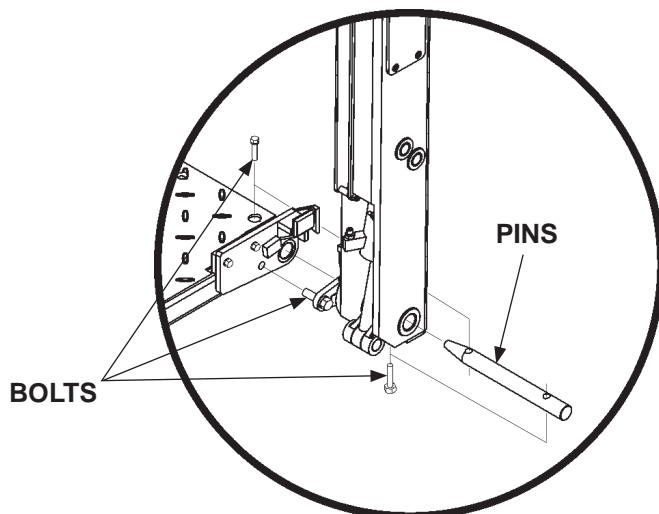
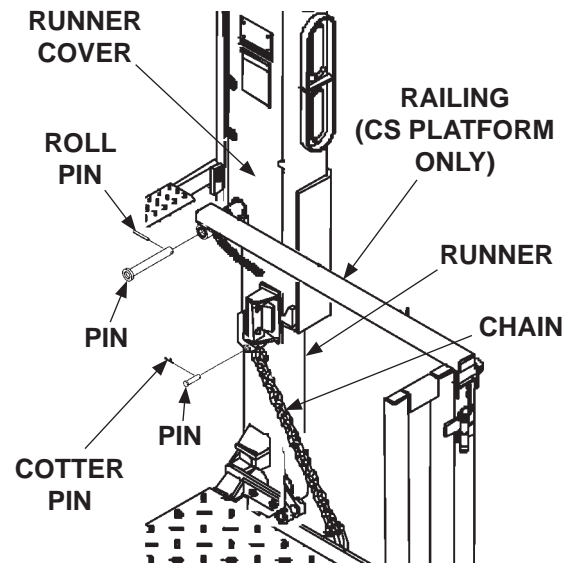

FIG. 23-2
FIG. 23-3
2. Remove the Bolts and Pins (**FIG. 23-2**) holding Platform and Connector Bar to RH & LH Runners. Next, remove Cotter Pins and Pins to remove Chains from both Runners (**FIG. 23-3**). If Liftgate is equipped with CS Platform, remove Roll Pins and Pins to remove Railings from both Runners (**FIG. 23-3**). Unbolt and remove Cover from Runner.